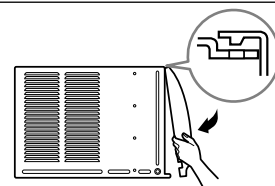

Fig. 14
2. Attach the front grille to the cabinet by inserting the tabs on the grille into the tabs on the front of the cabinet. Push the grille in until it snaps into place. (See Fig.14)